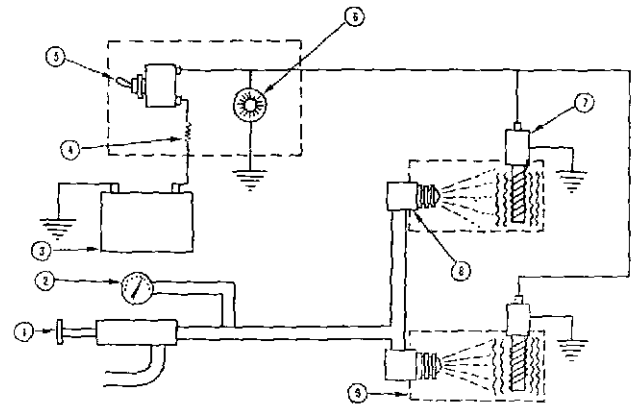

Fig. 2-4. Preheater wiring diagram
To aid in starting engine when temperature is 50° F [10° C] or below, an intake air preheater is available. The preheater equipment consists of a hand-priming pump (1, Fig. 2-4) to pump fuel into intake manifold (9), a glow plug (7) which is electrically heated by battery (3), and a switch (5) to turn on glow plug. Fuel burns in intake manifold and heats intake air.